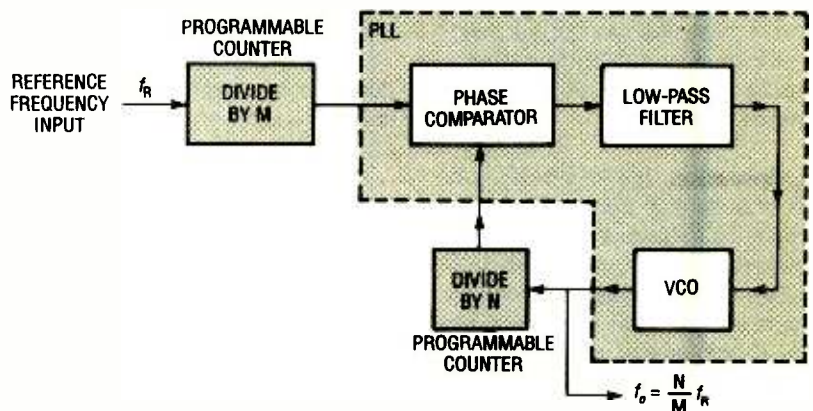

Fig. 3. The PLL can be used to generate new frequencies from a stable reference source by either frequency multiplication and division, or transition.
Frequency Synthesis. The PLL can be used to generate new frequencies from a stable reference source by either frequency multiplication and division, or transition. Figure 3 shows a typical frequency multiplication and division circuit using a PLL and two programmable counters. In that application, one of the counters is inserted between the VCO and the phase comparator, effectively dividing the VCO frequency by the counter's modulus (N). When the system is in lock, the VCO output is related to the reference frequency (f_R) by the counter modulus M and N as: